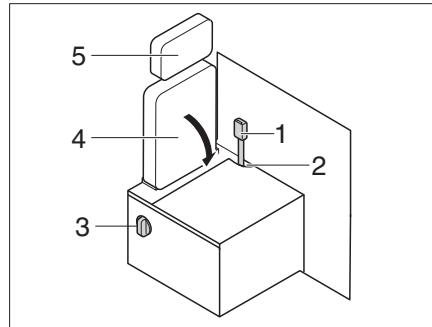

Fig. 208 Driving - living conversion
- Remove the headrest (Fig. 208,5) (see chapter 5.6).
- Insert the seat belt buckle (Fig. 208,1) into the opening (Fig. 208,2).
- Engage the lever (Fig. 208,3) and fold down the backrest (Fig. 208,4).
▷ Repeat the process in reverse order to convert the space back from the living to driving setup. Make sure that the seat belt buckle is inserted through the opening (Fig. 208,2).